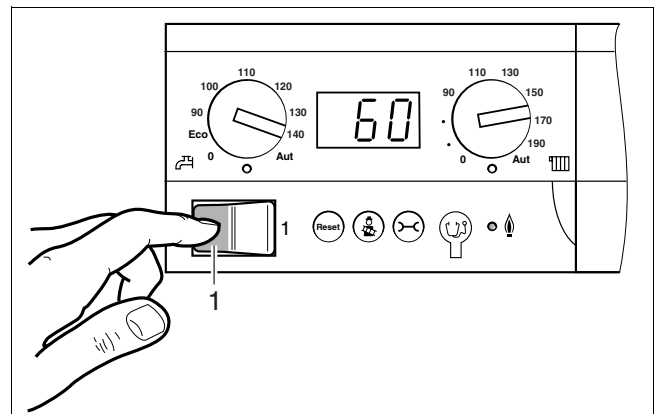

Fig. 1
- Switch off the heating system using the main switch (fig. 1).